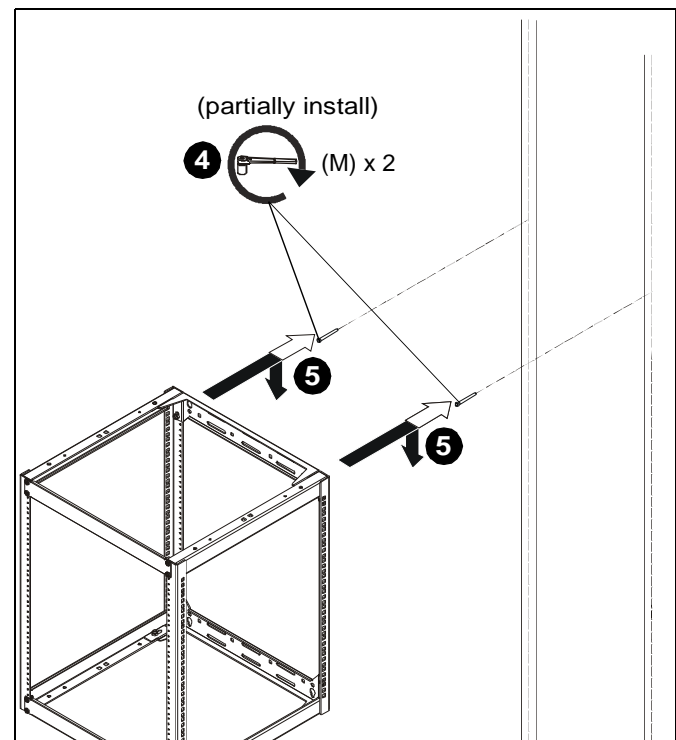

Figure 11
4. Partially install two 5/16" x 3 1/2" lag bolts (M) into upper holes. (See Figure 11)
5. Hang rack onto partially installed bolts. (See Figure 11)